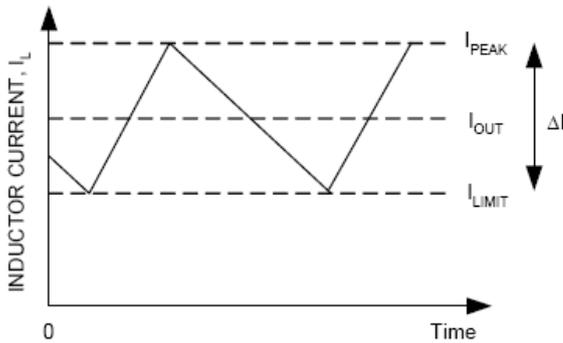

Figure 2. Current-Limit Algorithm
The current-limit circuit employs a "valley" current-sensing algorithm (See Figure 2). The EC3228 uses the low-side MOSFET's RDS(ON) of the synchronous rectifier as a current-sensing element. If the magnitude of the current-sense signal at PHASE pin is above the current limit threshold, the PWM is not allowed to initiate a new cycle. The actual peak current is greater than the current limit threshold by an amount equals to the inductor ripple current. Therefore, the exact current-limit characteristic and maximum load capability are the functions of the sense resistance, inductor value, and input voltage